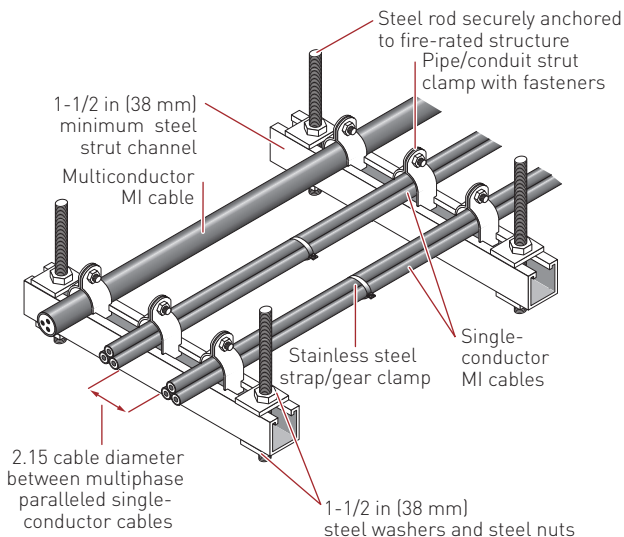

Figure 4: Steel strut trapeze
- 3A. **Trapeze-type Supports** (Figures 4 and 5) – The MI cable(s) shall be installed on/from trapeze-type supports. The trapeze-type supports shall be secured from the surface of the floor. Refer to the Manufacturer's Installation Instructions for additional details.